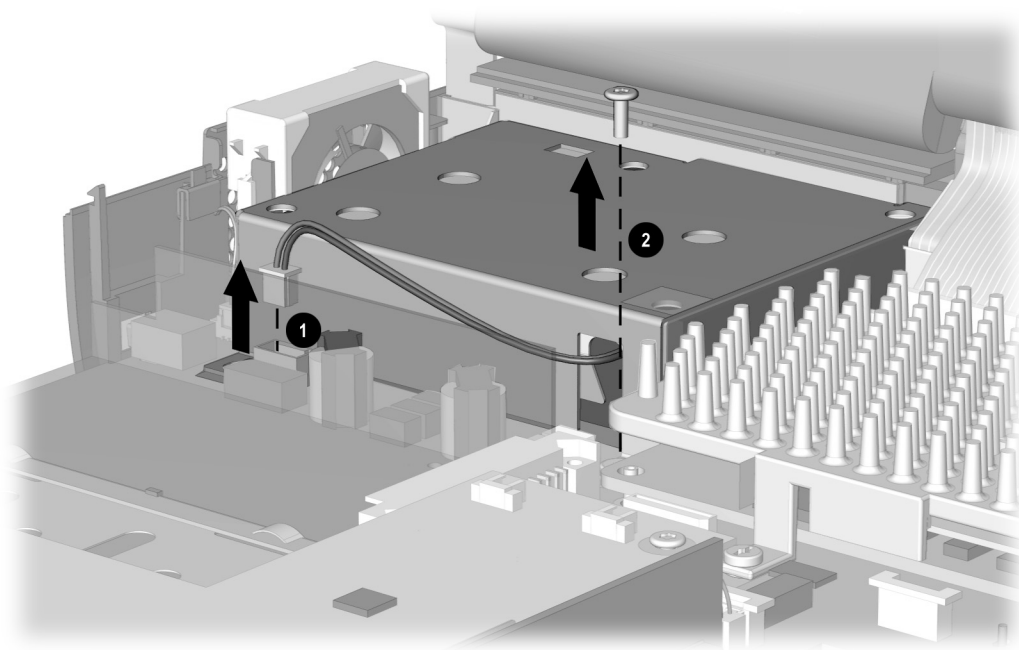

Figure 5-36. Removing the Power Supply Screw and Disconnecting the Power Supply Cable
10. Disconnect the power supply cable ❶ from the system board (Figure 5-36).
11. Remove the screw that secures the power supply to the system board ❷.